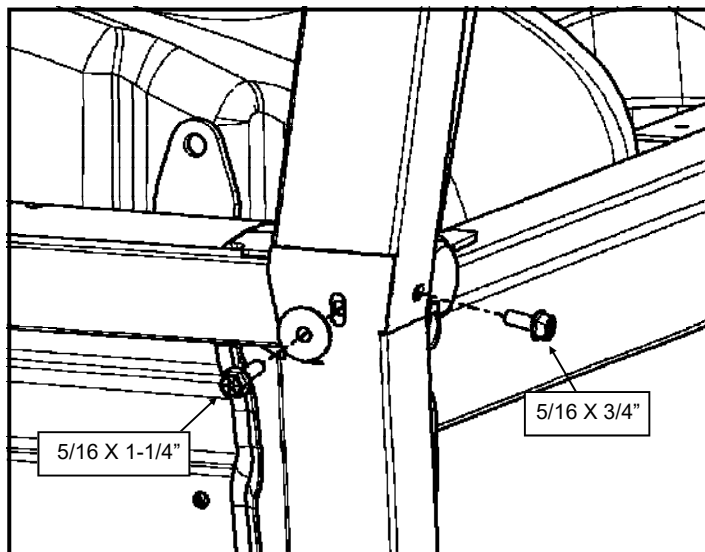

Figure 5.4: Floorboard panel to B-pillar panel (left)
- (1) 5/16-18 x 3/4" Flanged hex bolt
- (2) 5/16-18 Flanged nut
Connect the floorboard panels to the B-pillar with one (1) 5/16 x 1-1/4" bolt with fender washer outside, through the side and through the tube of the fender panel, with a nut inside. Attach the rear panel to the rear tab of the fender panel with one (1) 5/16 x 3/4" bolt outside and nut inside. Leave loose. (**Figure 5.4**).